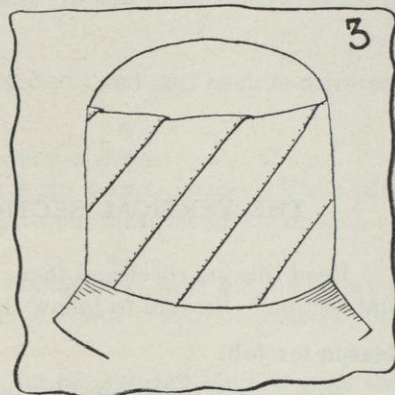

FIG. 3.
- a. Ribbon side crowns may be made by cutting the ribbon on the bias, and sewing each piece of ribbon to the next, invisibly in the selvage (see Figure 3).
(1) Be careful that the grain in each piece of ribbon runs the same way.
(2) Plan the side crown so that there will be no seams other than those made by the selvages that lap over each piece of ribbon.